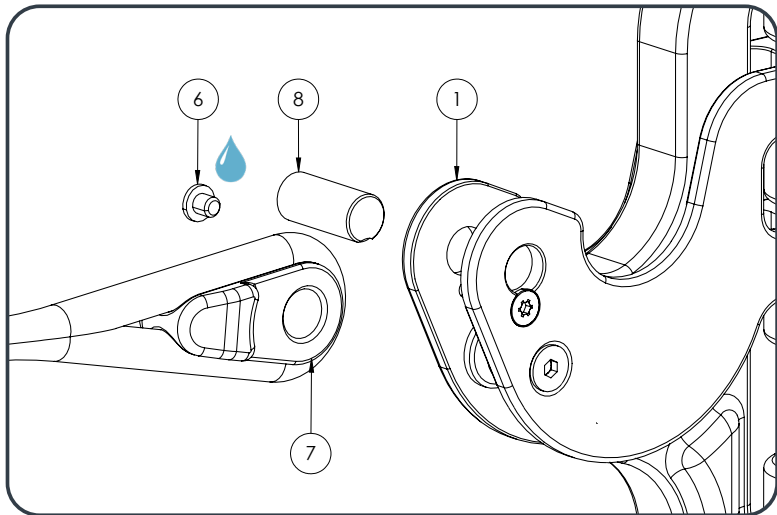

Fig. 2 Attached Thimble with Halyard
1. Remove halyard pin fastener ⑥
2. Remove main halyard pin ⑧
3. Remove thimble ⑦ from gaff lock ①
4. Secure spliced halyard eye to thimble ⑦
5. Thread the halyard eye fitted with the thimble ⑦ through the sail plate ⑨ fitted to the sail (fig.2)
6. Insert pin ⑧, rotate until it is seated and secure with fastener ⑥ with a few drops of blue Loctite 423
7. Install thimble ⑦ in between gaff lock cheeks ①